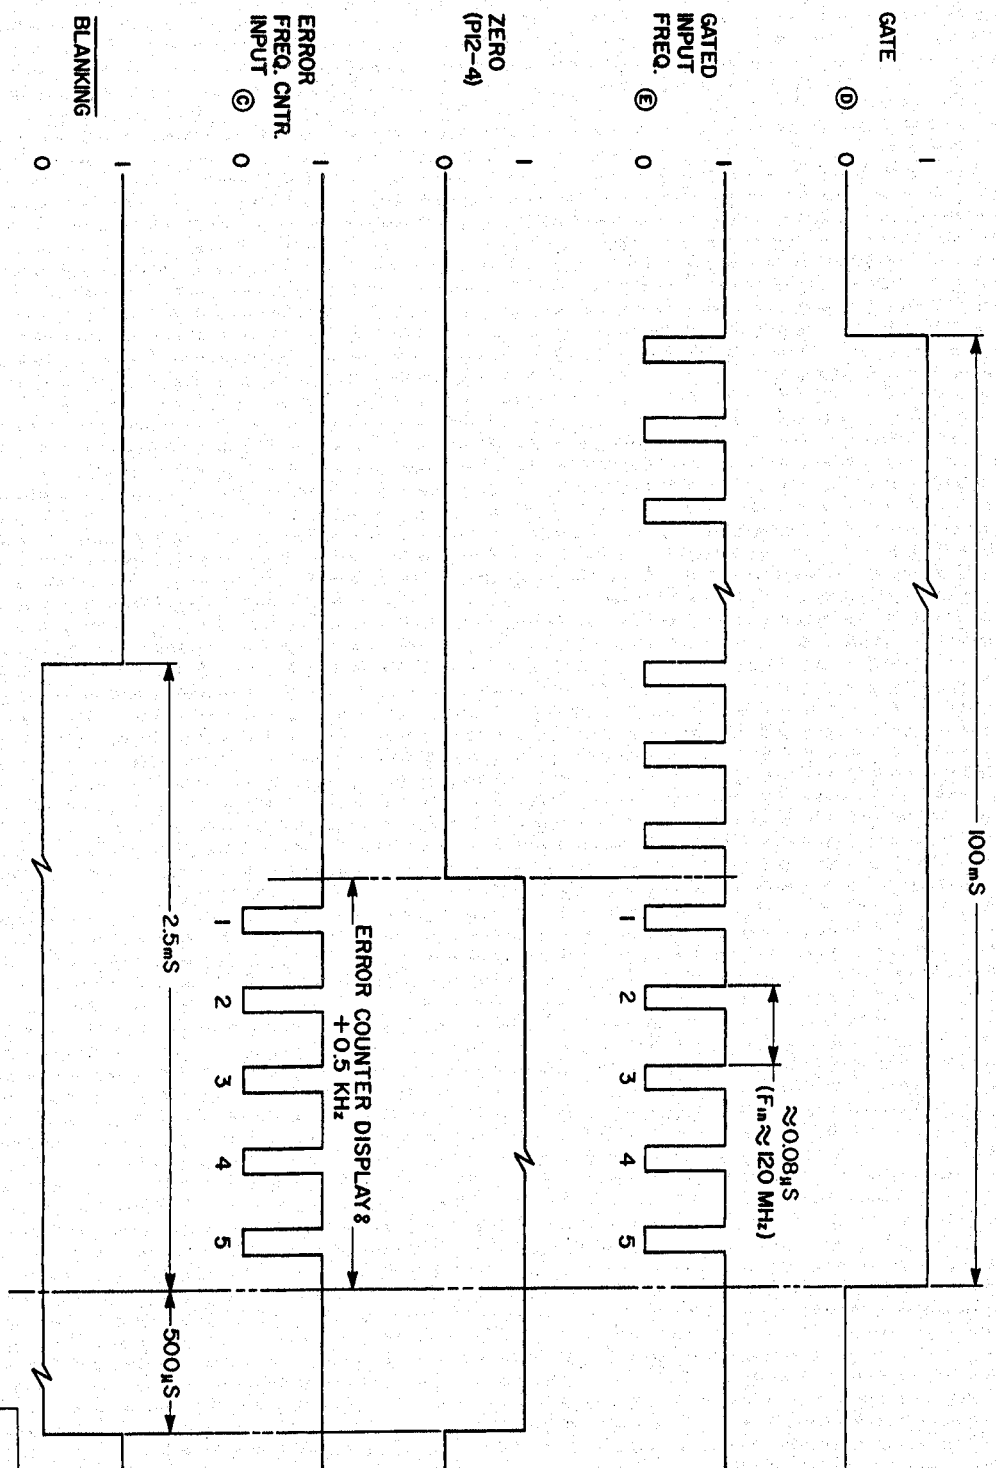

FIG. 4-4
- 4-48. Frequency Error Counter. (Refer to Fig 4-4,4-5, and 9-5)
- 4-51. Detailed Circuit Description. (Refer to Fig 4-4 and 9-5)
- 4-53. For the case of an input frequency higher than the NAV-750 frequency, the ZERO line comes true (1 level) before the fall of the gate signal at point D. (See Figure 4-4) The 1 level allows the gated input frequency to pass through X717B,C, and D to the error frequency counters. X409, X410, and X418. At the end of the gate time the input frequency pulses disappear and the frequency error counter holds the count of the number of pulses counted from the leading edge of the ZERO to the falling edge of GATE signal. At the fall of the GATE signal, 500 μ s, 0/S X702 is triggered. At its time out a negative LOAD pulse is generated at X708B to reload the programmed counters to the NAV-750 frequency command for the next gate cycle. The 330pf, C730, capacitor on the ZERO line delays the interconnection of the input frequency pulses to the error counter so that the pulse causing the programmed counters to reach zero will not be counted by the error counter, but the next pulse will be the first pulse counted.